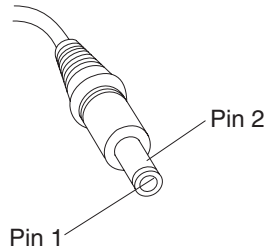

Figure 34. Power adapter pinouts
Pin (see Figure 34)	Voltage (DC)